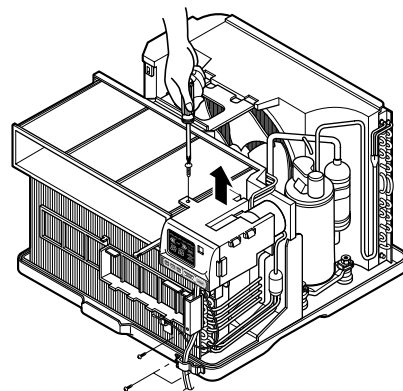

Figure 3
13. Raise the control box upward completely. (See Figure 3)